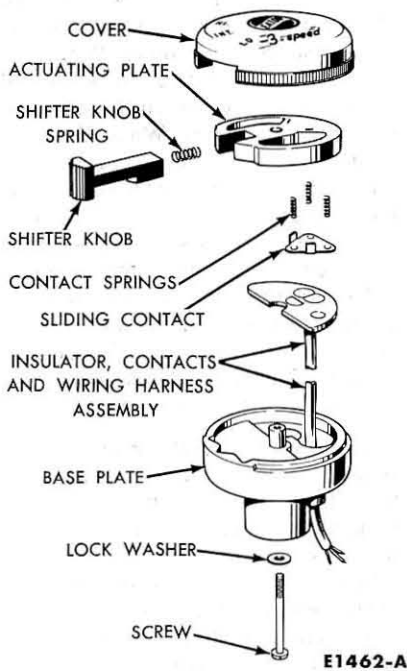

FIG. 15—Control Switch Disassembled
1. Remove the screw from the mounting side of the switch. Lift off the cover, actuating plate, shifter knob, knob spring, contact springs and contact (Fig. 15).